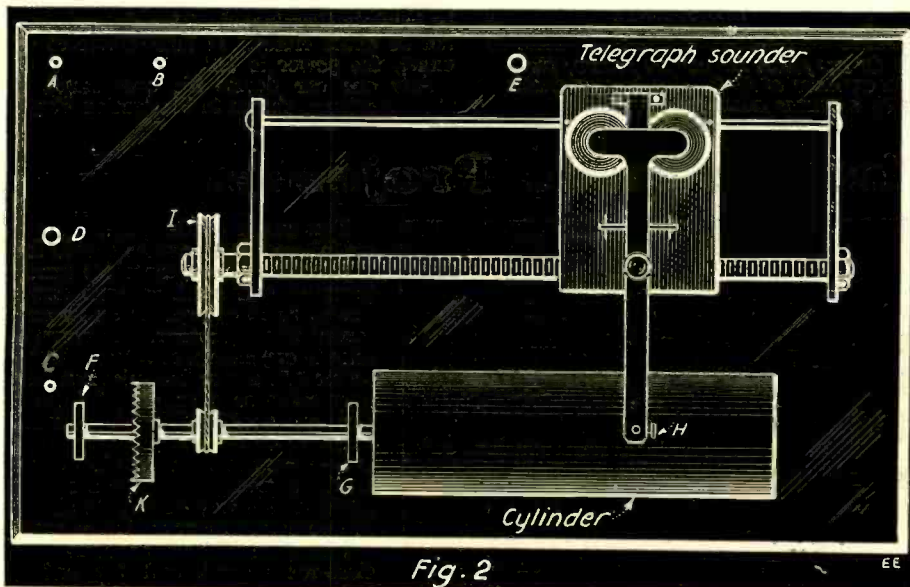

Fig. 2
A large number of turns of wire could be made to form a *heat compass*. The details of such a device are shown in Fig. 2. A small bundle of soft iron wire is bound with paper glued into place. Take a number of lengths of iron and German-silver wire and wrap them in the same direction on the core, in alternate coils as shown. Twist the ends of the wire together so that every other joint is on top. The ends of the more distant coils being connected together by a loop of wire, thus forming a *compass* and the core will place its axis in a line with the natural magnetic field of the earth.
For example, if two were desired, it would not look well to light one and four, or two and three, but a combination like one and five, or two and four would do nicely. Accordingly, the wiring to the lamps was arranged as shown in Fig. 2. With this wiring the circuits would have to be controlled as summarized in the table above.
If the triangles are constructed properly each will fit into any three holes at the vertices of an equilateral triangle in the baseboard. The numbered holes should then be filled with mercury to about 3/16 inch from the top. Binding posts A, B and C are connected to control wires A, B and C, and the common wires goes to the other side of the main (Fig. 2).
A good microscope is shown at Fig. 2. The tubes are preferably of thin sheet metal, rolled over a stick to the proper diameter, and then soldered. They may, however, be made of pasteboard. The main
Fig. 2. This Sectional View of the Microscope Shows How the Metal Tubes of Brass, Copper, or Other Covering Are Arranged to Slide Within One Another; the Objective Lens Being Placed at O, and the Two Image-Magnifying Eye-Piece Lenses at E-1 and E-2.
Data for eye pieces for various powers; the letters are those of fig. 2. E1 is always double, and E2 is always plano convex.
The lenses naturally come next. O, the objective, is a 1/2 inch focal length, plano-convex lens. These can be secured from your optician. E1 is a 1-inch focus, double convex lens. E2 is a 1-inch focus, plano-convex lens. Take care to have these last two of the same kind of glass. O is mounted by making a ring to fit the bottom of the objective tube, and with a hole slightly smaller than the 1/2 inch focus lens. Center the lens over the aperture as shown, and glue a ring of felt F, with a hole smaller (slightly) than the lens, to the metal ring. When fast, clean the lens thoroly, and solder carefully to the little objective tube as shown by Fig. 2.
utilized for a number of sizes. The general appearance of a shell reamer is illustrated in Fig. 1. This type is known as a *fluted shell* reamer. In Fig. 2 a *rose shell* reamer is shown. The cutting edges, fluting, and back taper of this latter type are the same as those of the rose reamers. However, in all other particulars, the tool is the same as an ordinary fluted shell reamer.
other conditions. As it is sometimes desired to leave the lights (LL) "on" while repeatedly passing up and down the steps it will be well to install a snap switch (SS) in the usual position and connect it in multiple with the pull-chain switch (PS) as depicted in diagram Fig. 2.